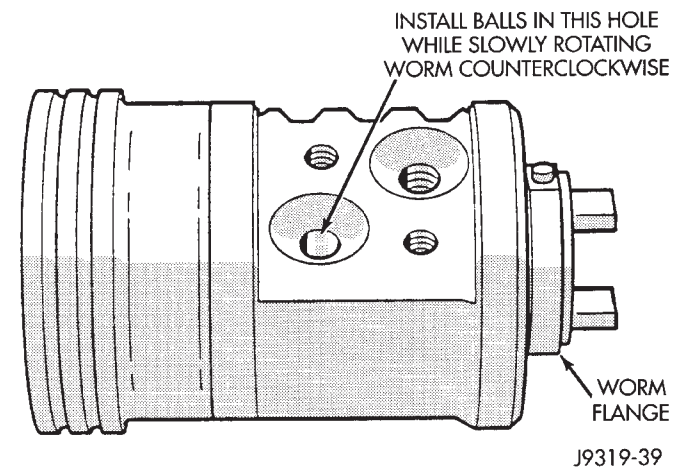

Fig. 33 Installing Balls in Rack Piston
- (1) Install O-ring seal and teflon ring and lubricate with power steering fluid.
- (2) Install worm shaft to rack piston outside of housing. Fully seat worm shaft to rack piston and align worm shaft spiral groove with rack piston ball guide hole (Fig. 33).